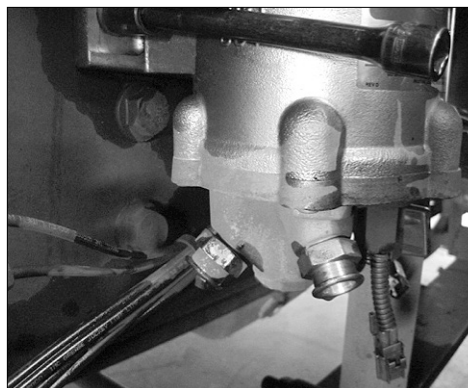

Figure 13: Remove Voss Fitting
Step 4: Remove VOSS return fuel fitting from bottom plate of Fuel Pro (Figure 13).